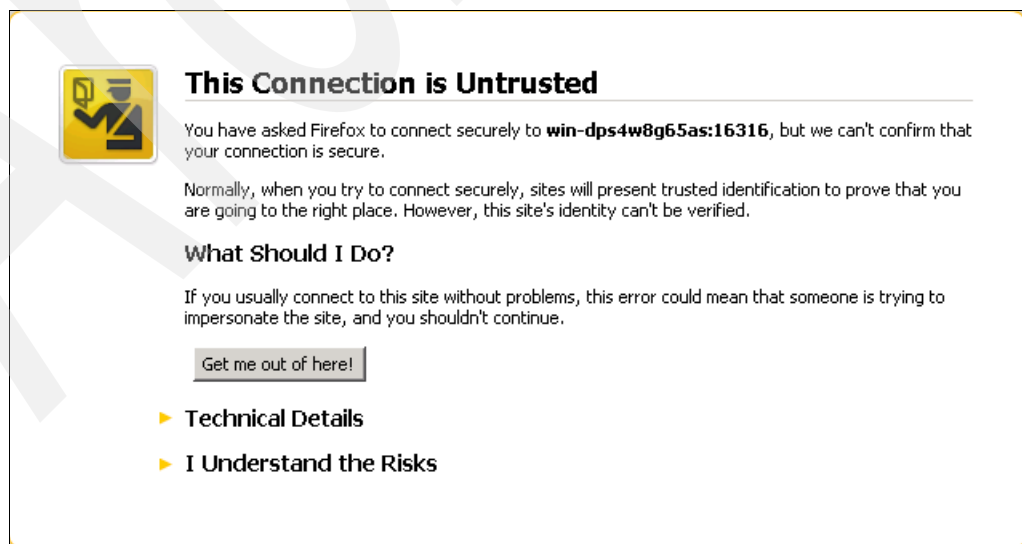

Figure 6-18 TKLM\_v2\_conn\_trust
18. TKLM uses the Firefox browser whenever your server is behind a firewall. The starting TKLM program will ask you to confirm that the connection is secure (Figure 6-18). Click **I Understand the Risks** to continue.